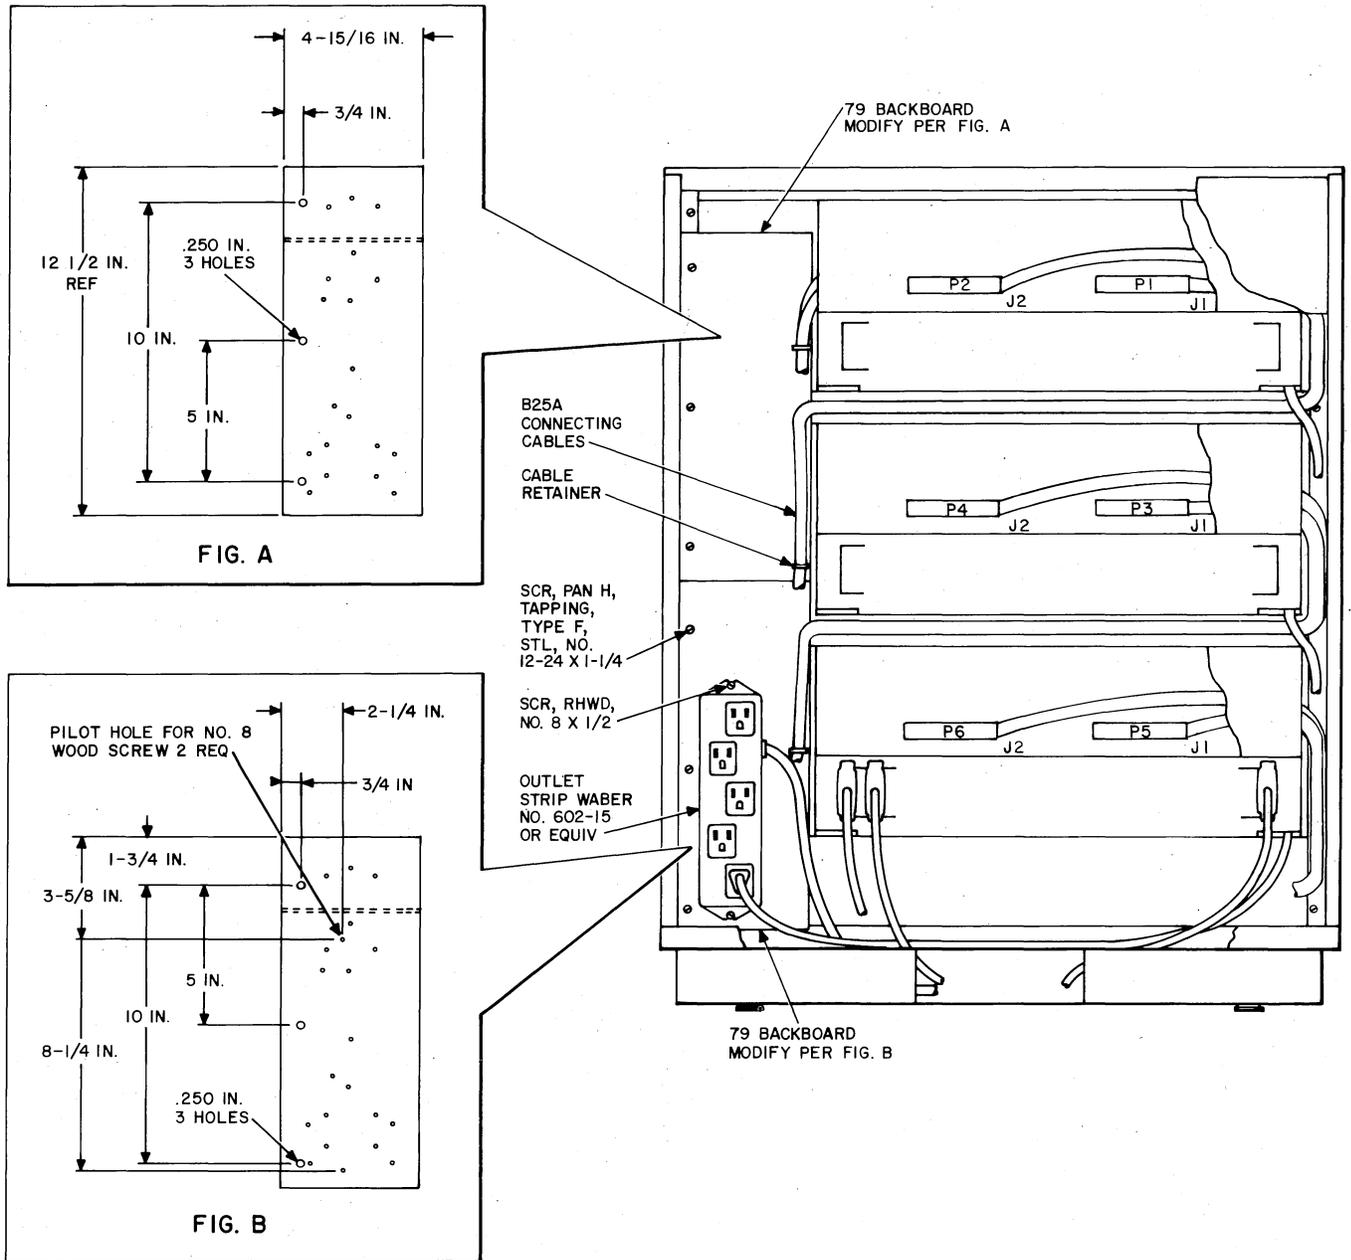

Fig. 3—Rear View of Data Station
3.05 The KS-20018-L12A cabinet may be equipped with one 79 backboard, while a KS-20018-L11A may be equipped with two. The backboard is used to mount the power outlet strip (if used) and as a fastening point for the various cables. Drill the 79 backboard in accordance with dimensions given in Fig. 3.
to install the data mounting in a 19-inch space, remove, rotate, and fasten one mounting bracket to the data mounting (long side of mounting bracket against data mounting). Refer to Fig. 3 and 4 for a typical installation of 40B1 data mountings in a KS-20018 cabinet.